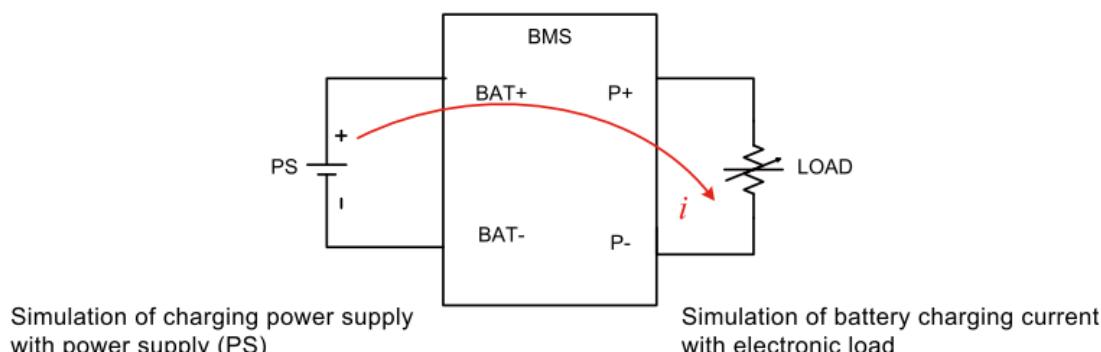

Figure 2.10 Equivalent simulation of BMS discharge
- Over current discharge protection (OCDP) test method: Power supply (PS) & LOAD connection and test procedures are shown in Figure 2.10.